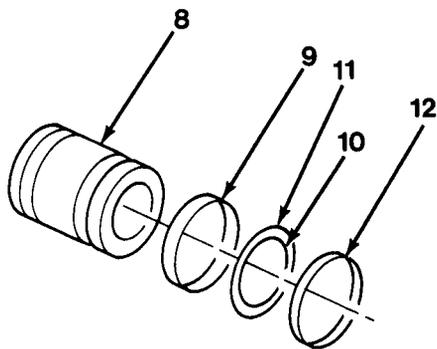

Figure 13-5
12. Remove wear ring (9), O-ring (10), piston seal (11) and piston ring (12) from piston (8, Figure 13-5).